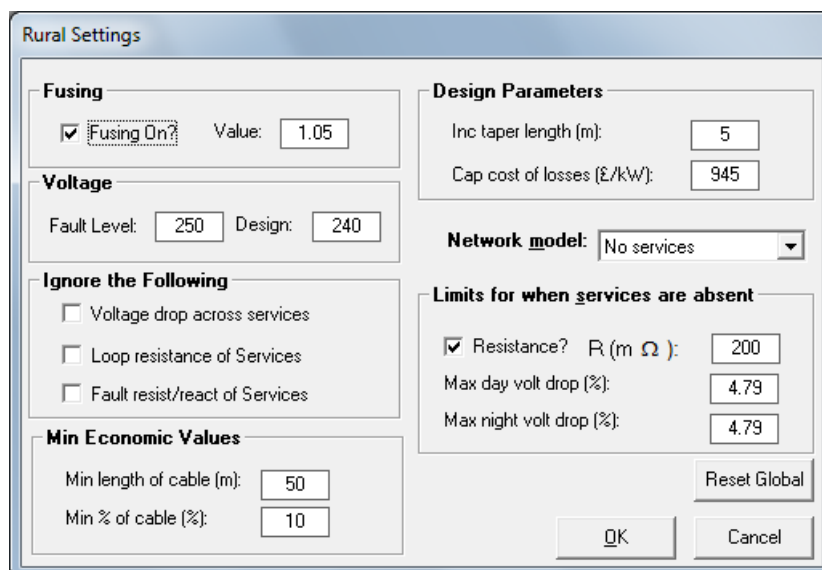

Figure 2 Network Settings
- 2) Check that the settings are in accordance with those shown in Figure 2, below.